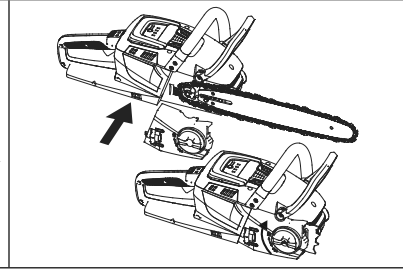

FIG. 13
7. Replace the side cover and slightly tighten the side cover knob (Fig. 13).